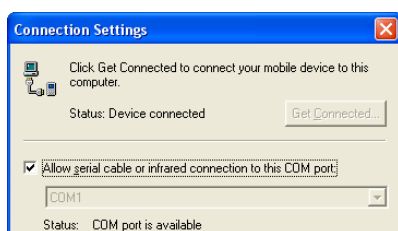

**Figure A-5. Connection Settings**
3. On the **Connection Settings** dialog box, click and enable the following parameters (Figure A-5):